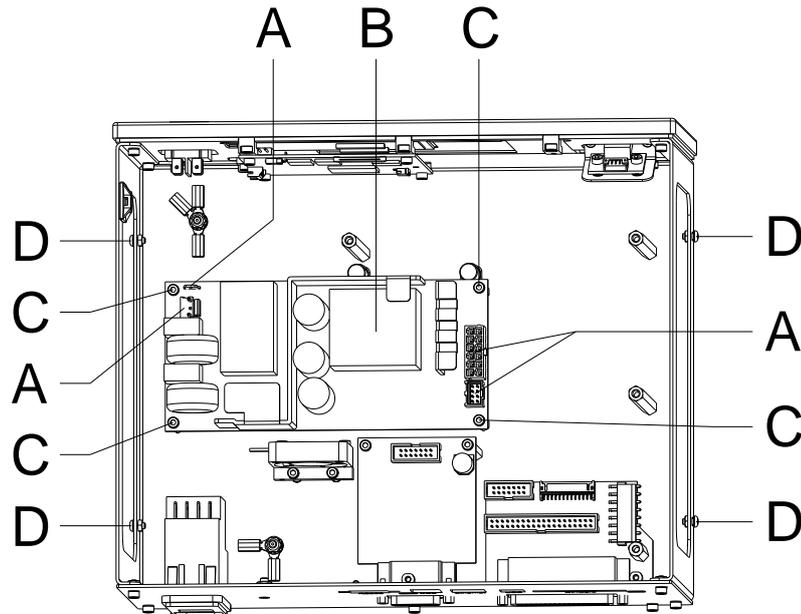

Figure 18
2. Unscrew the four screws (D, Figure 18) and remove the control unit cover.
4. Carefully remove the FFC cable (C) from the plug-in connector of the CPU HMI (B).
5. Carefully remove the connection line (D) of touch panel from the plug-in connector of CPU HMI (B).
6. After removing the connection cable to CPU and removing the four screws (A), remove the CPU HMI (B).
7. Remove the five screws (E).
8. Lift the display bar (J) and the display support (F).
9. Remove the graphic module (I) and the seal (G) from the depression.